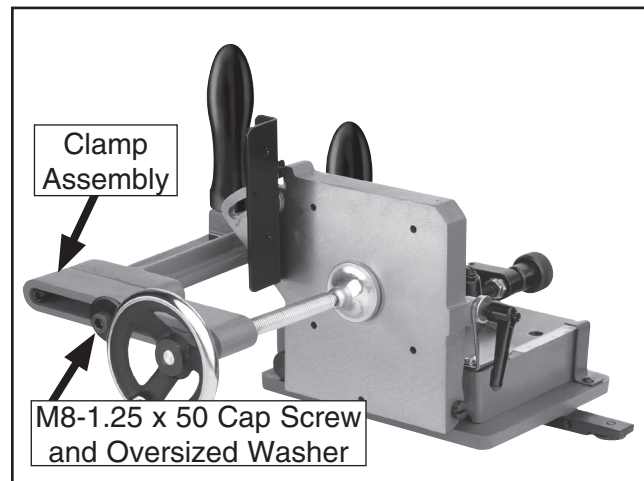

Figure 3. Completed assembly.
4. Attach the clamp assembly to the clamp arm with an M8-1.25 x 50 cap screw and the 8mm fender washer (see **Figure 3**).